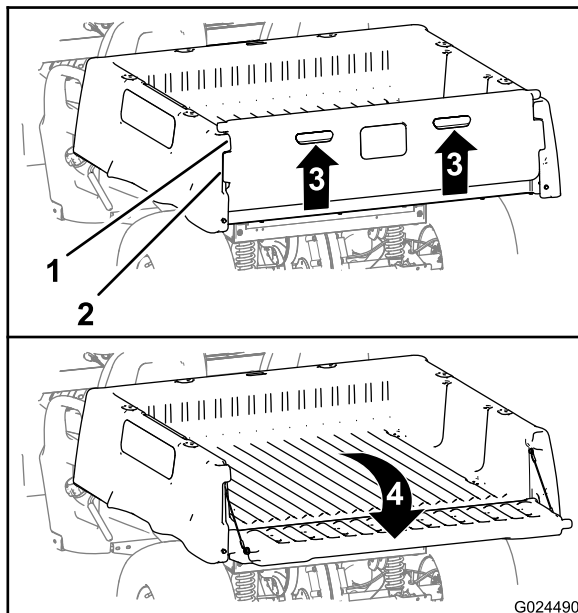

Figure 11
2. Lift up on the finger pulls at the back panel of the tailgate (Figure 11).
3. Align the lock flanges of the tailgate with the openings between the tailgate flanges of the cargo box (Figure 11).
4. Rotate the tail gate rearward and down (Figure 11).
6. Rotate the tailgate up and forward until the lock flanges of the tailgate are flush with the tailgate pocket in the cargo box (Figure 11).
7. Lower the tailgate until it is seated in the back of the cargo box (Figure 11).